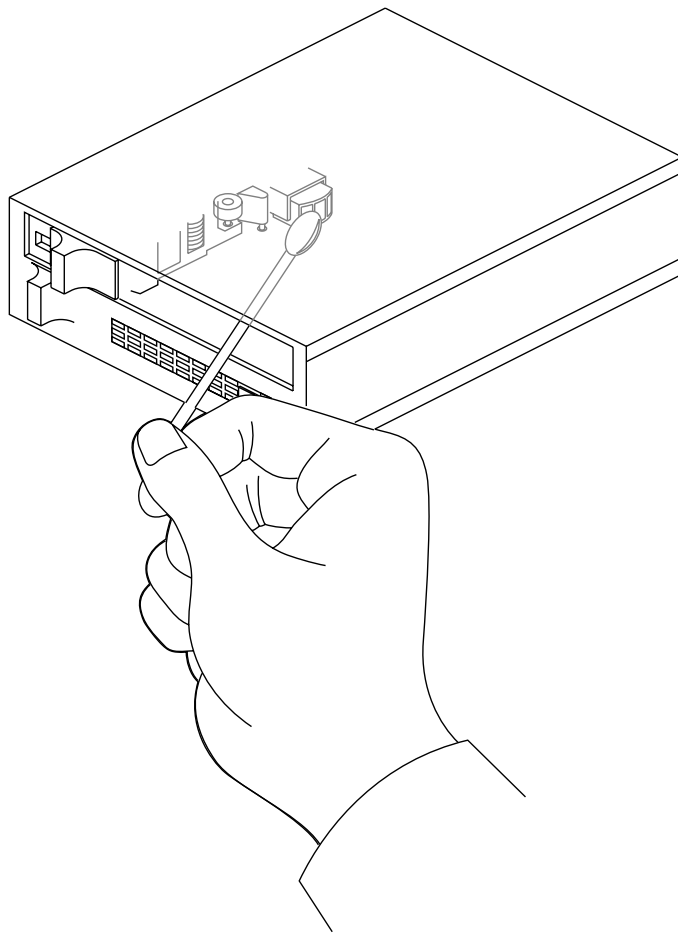

Figure B-5 Cleaning the Tape Head
3. Dip a clean, nonfibrous cotton swab in tape head cleaning fluid, and wipe the tape head (see Figure B-5).